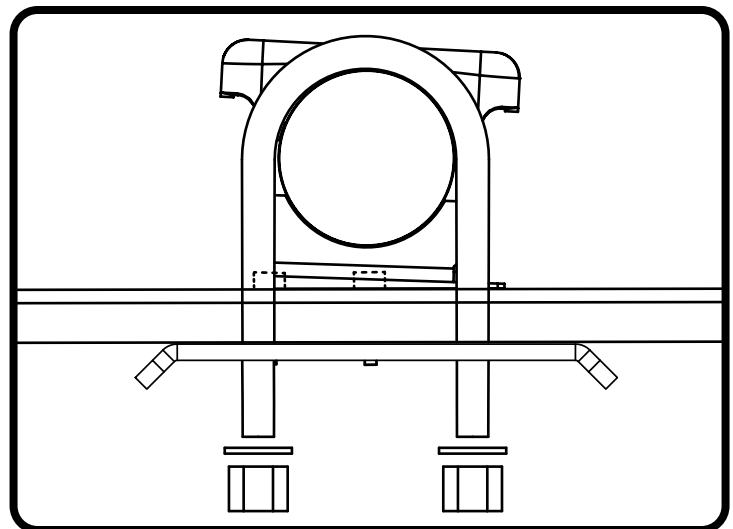

Figure 20
**29.** Slide the leaf spring clamp plate up onto the u-bolts (Figure 20). **The offset holes should be to the front of the truck.**